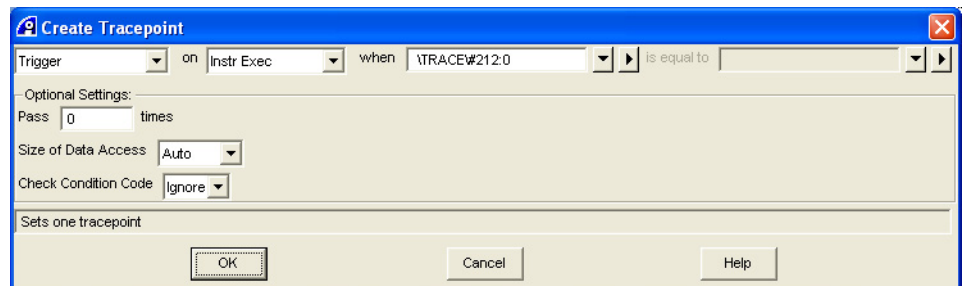

Figure 7-1 Create Tracepoint dialog box
2. Select **Create Tracepoint...** from the context menu to open the Create Tracepoint dialog box. Figure 7-1 shows an example: